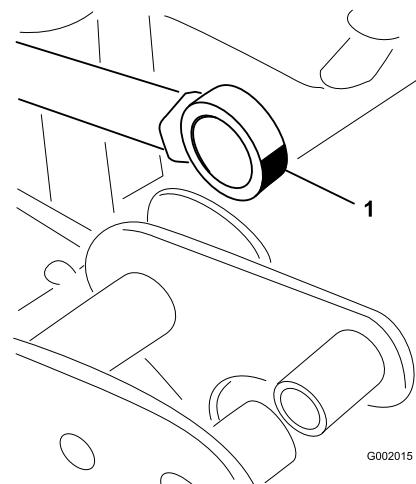

Figure 109
5. Swivel the rod-end bearing and apply grease into the bearing (Figure 109).